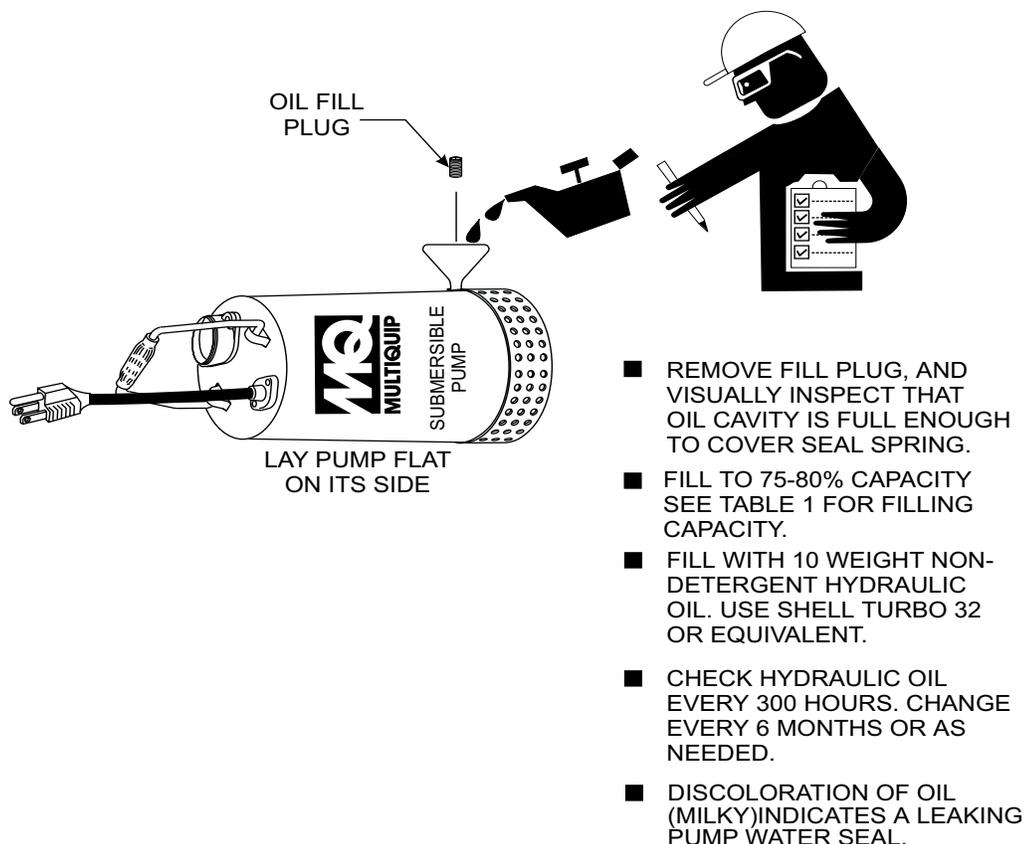

Figure 11. Checking Hydraulic Oil
1. Lay the pump (Figure 11) on its side with the oil plug facing upwards.